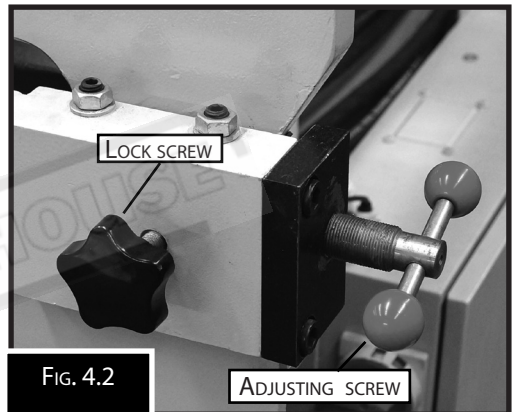

FIG. 4.2
These machines are fitted with an easy to use clamp beam adjustment. There are two adjustment screws (Fig.4.2) on the machine situated on each side of the machine.
2. Turn the two adjusting screws until the gap (Fig.4.2) is correct.